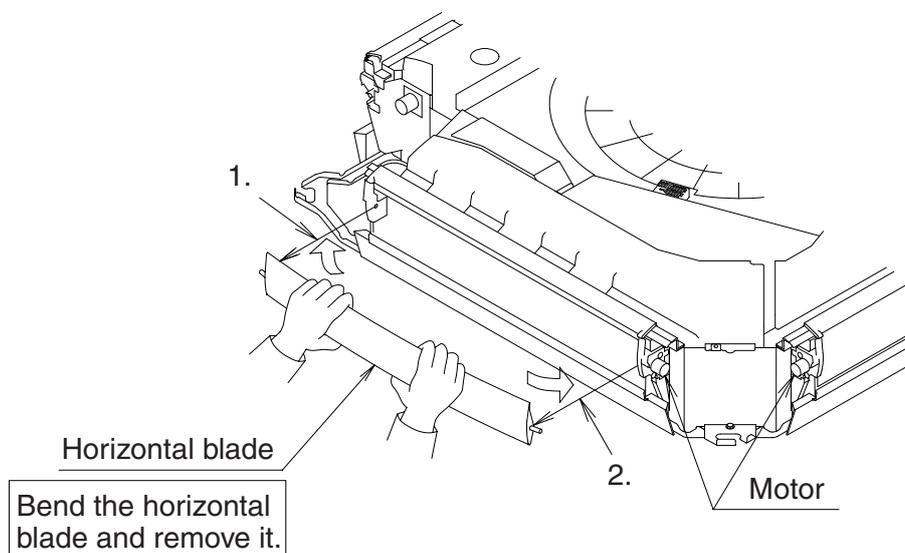
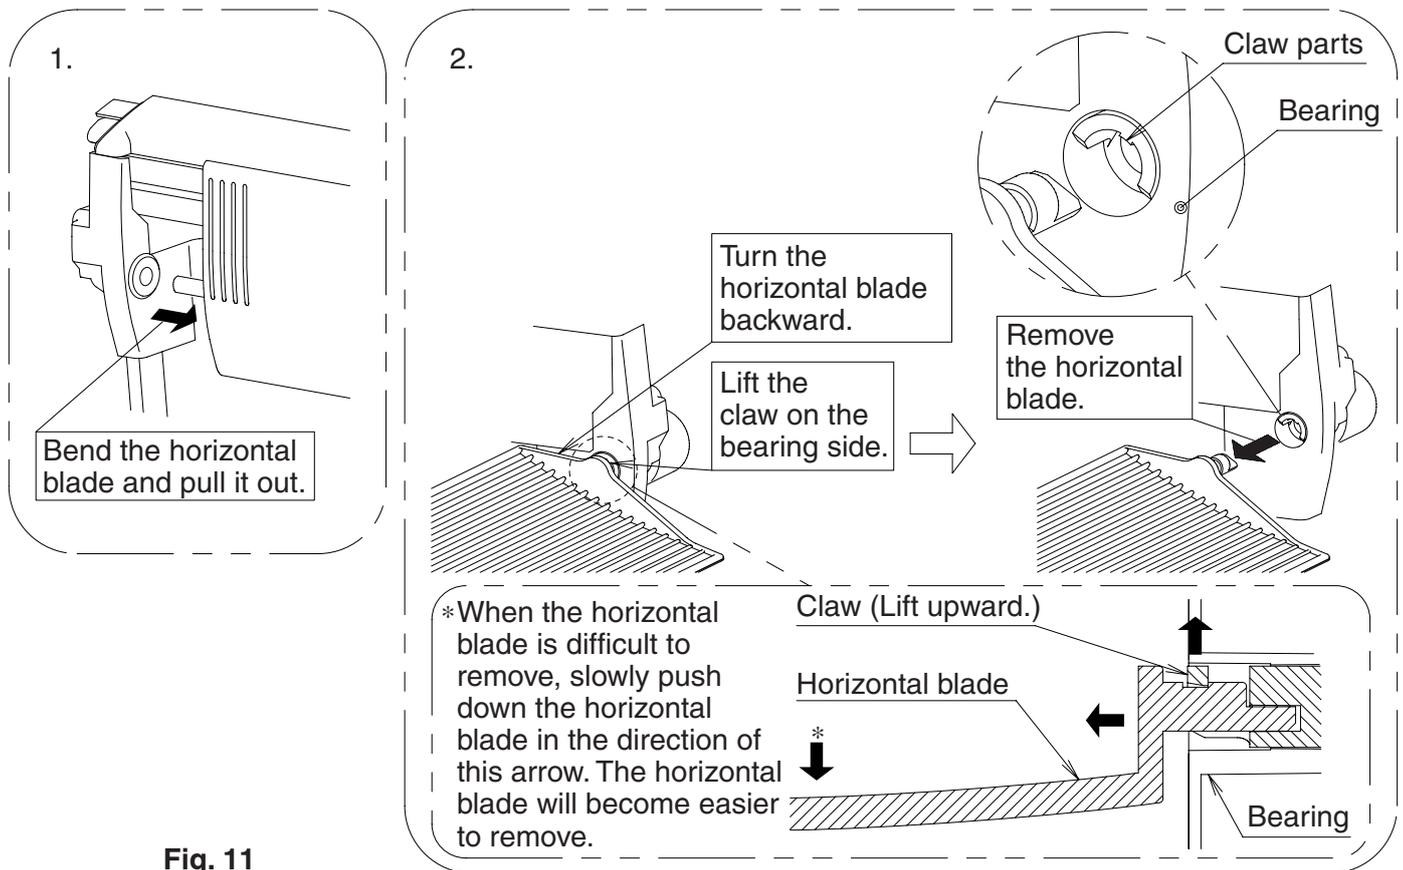

Fig. 10
Fig. 11
#### (1) Remove the horizontal blade of the air outlet to be blocked. (Refer to Fig. 10 and Fig. 11)